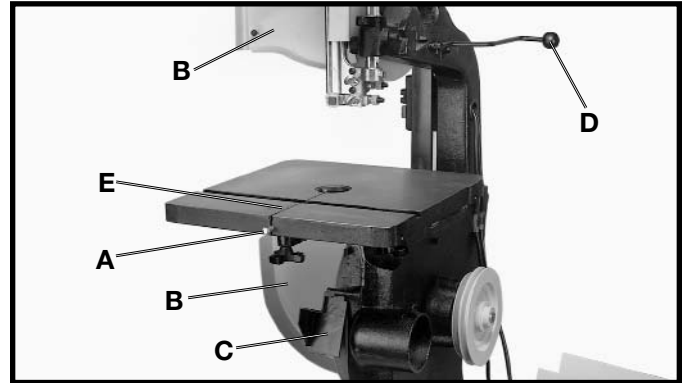

Fig. 20
3. Remove the table pin (A) Fig. 20 from the table.
4. Open the two wheel guard doors (B) Fig. 20, and the blade guard door (C).
5. Make sure the quick tension lever (D) Fig. 20, is positioned to the left of the machine.
6. **NOTE: CHECK BLADE TO BE SURE TEETH WILL POINT DOWN TOWARD TABLE WHEN INSTALLED. IF NOT, TURN BLADE INSIDE OUT.** Slide the band saw blade, (teeth facing out), through the slot (E) Fig. 20, in the band saw table.
8. Replace the table pin (A) Fig. 20.
9. Close the two wheel guard doors (B) Fig. 20, and the blade guard door (C).
10. Move the quick tension lever (D) Fig. 20, to the right position to put tension on the blade.